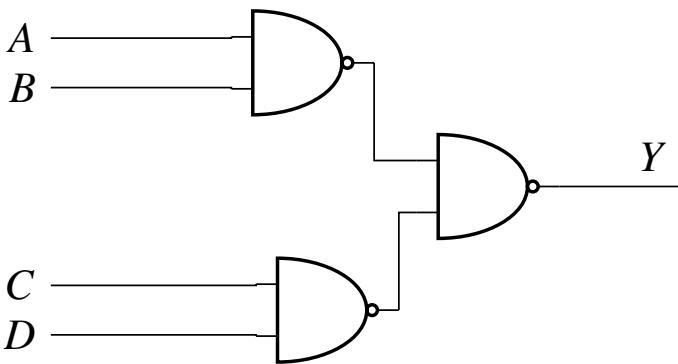

Fig. 3.37
55. In the logic circuit shown in Fig. 3.37, y is given by _____